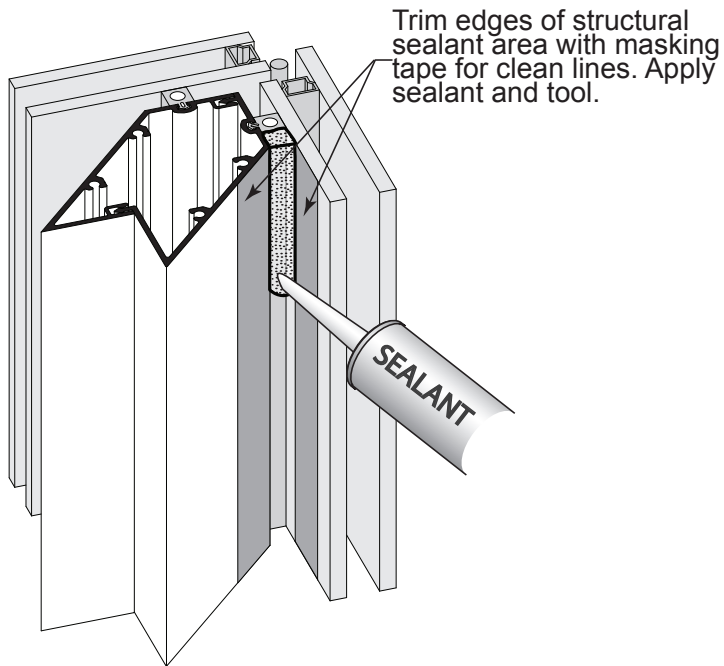
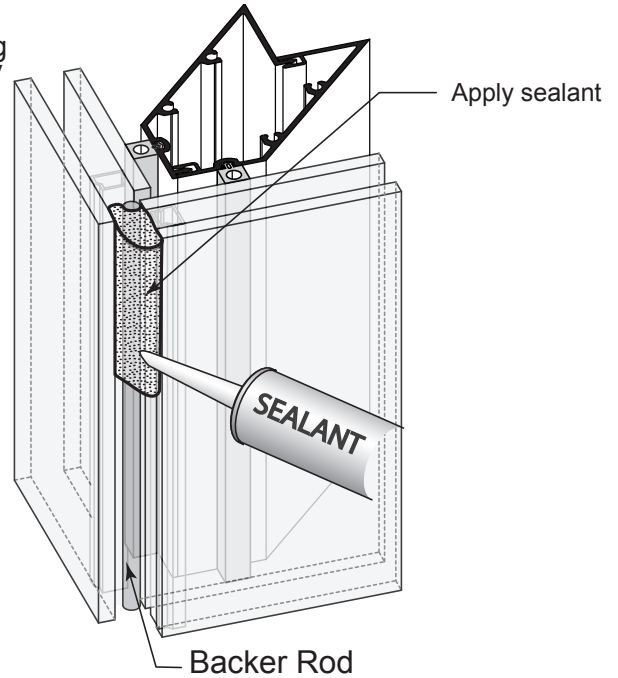

Fig.55.1
Fig.55.2
- C. Set glass. Tape off side of SSG vertical and glass prior to applying structural sealant. Apply structural sealant and backer rod as shown in **Fig 55.1** & **Fig 55.2**